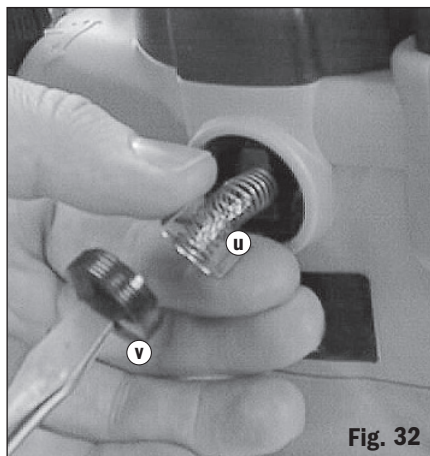

Fig. 32
2. Remove the brushes by pulling carefully on the protruding springs. **Fig. 32.**